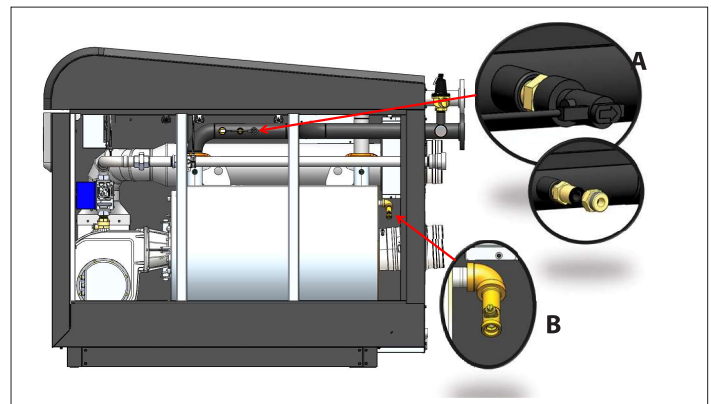

Figure 69 - Drain Kit Details
4. Remove the flow switch from the appliance. See Figure 69.
5. Install the gasket and brass adapter for the hose connection (included with part # 7550P-606) onto the flow switch fitting. See Figure 69-A.
6. Connect one hose to the drain valve (Figure 69-B) and place the free end in a bucket. Connect one of the hoses to the circulation pump outlet and the hose connection adapter installed on the flow switch fitting. Connect the other hose to the circulation pump inlet and place the free end in the bucket.